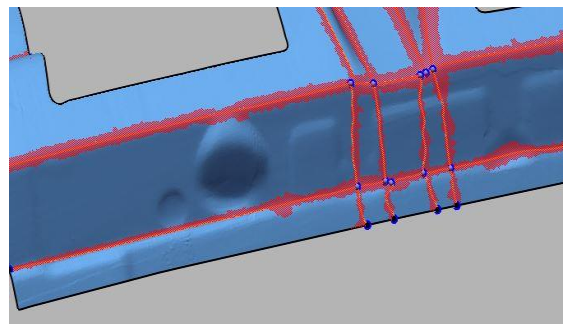

Figure 362 - After Editing
- Edit the Contour Curves regions as shown in **Figure 362**.